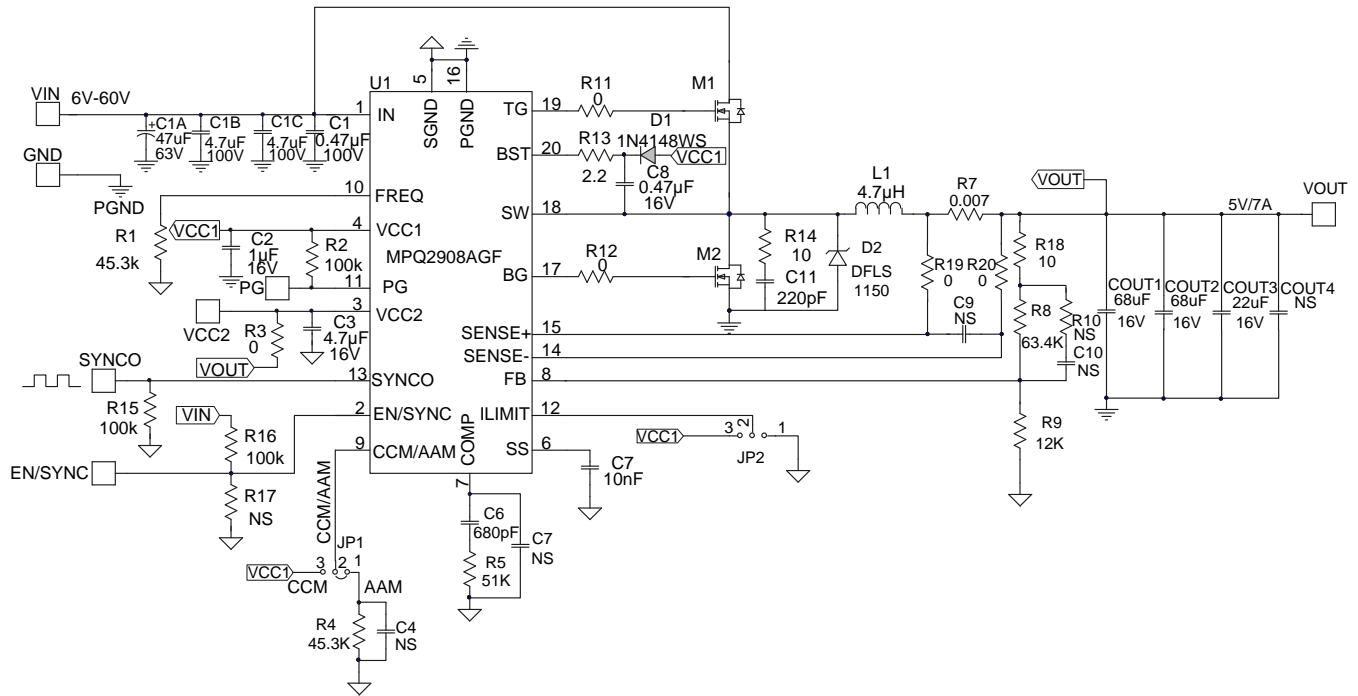

Figure 13: 5V Output Application Circuit for TSSOP Package
- 6) The recommended PCB layout is based on Figure 13.
| | | Updated the BST capacitor value to “0.47 μ F” in Figures 13–16 | 29–30 |